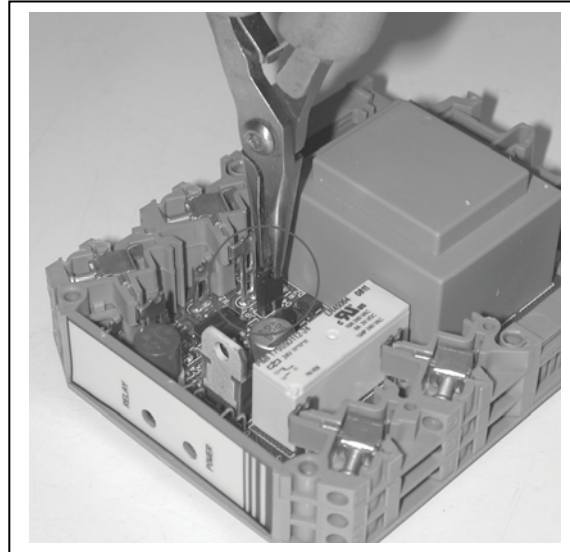

Figure 5
**Note:** For dry contact device, jumper JP1 must be installed (default configuration). See Fig. 5
1. For NPN output device, jumper JP1 must be installed (default configuration). See Fig. 5.
2. For PNP output device, jumper JP1 must be removed (open). See Fig. 5.
4. EXC. (J) and SIGNAL (M) are internally connected (no external jumper wire required).